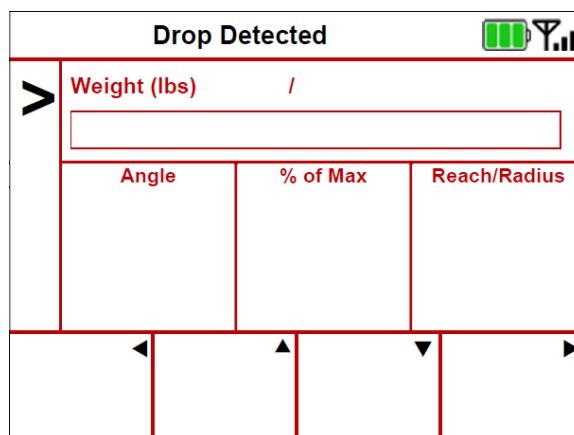

Figure 2-60.
2.11.19.3 Drop Detect Mode (Figure 2-60).